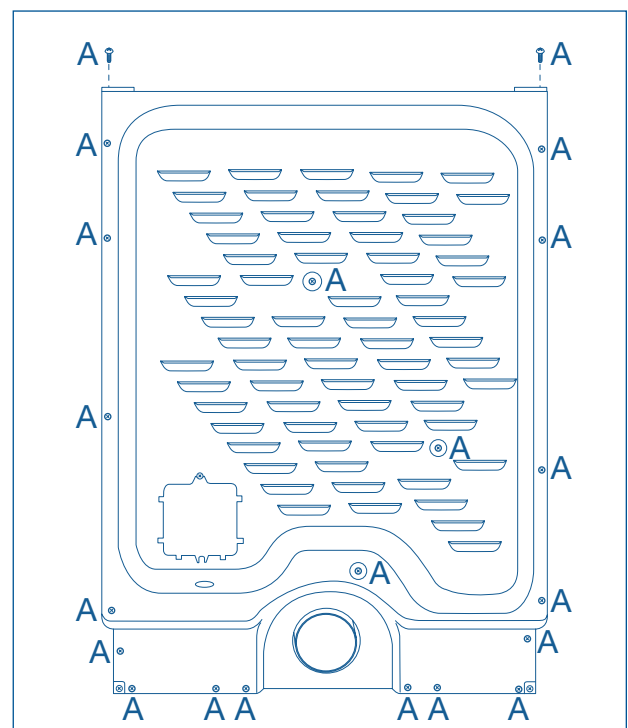

Figure 4-24.
2. Using a #2 square bit screwdriver, extract the 21 screws ( Labeled "A" in Figure 4-24) securing the rear panel to the rear of the unit. Remove the rear panel from unit.